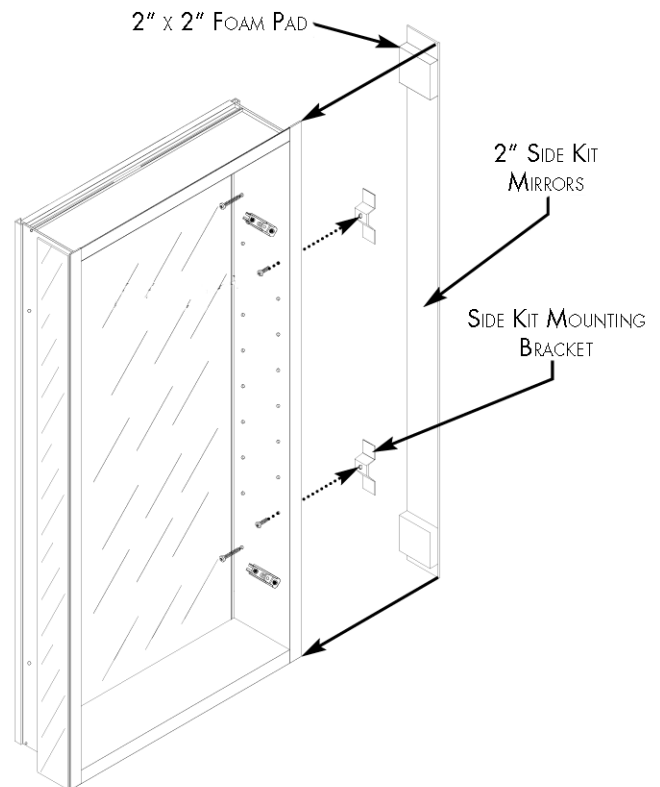

FIG 3
- 4a. Using 10-32 x $\frac{1}{2}$ " machine screws, attach side kit mounting bracket (Fig 3)
- 4c. Place 2" x 2" foam pads 1" from each end of mirror strip (Fig 3).
- 4d. Peel tape off brackets and place mirrored side kit as shown(Fig 3). Mirror should be even with front of cabinet flange and flush with the top and bottom of the cabinet. Repeat for opposite side.